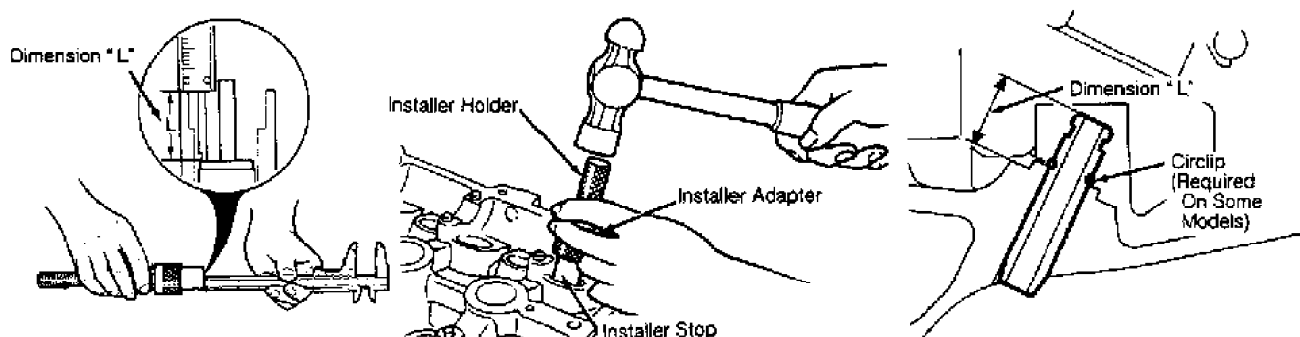

Fig. 11: Adjusting Valve Guide Installer & Installing Guide
3) If required, install new circlip on guide. Using proper components of Valve Guide Installer (49-L012-0A0), adjust installer guide depth (dimension "L") to specification using depth micrometer or caliper. See Fig. 11.
4) Insert guide into pre-adjusted installer, and drive guide into cylinder head from camshaft side until guide circlip and/or installer contact cylinder head. Measure dimension "L" (guide installed height). See Fig. 11 or 12. If installed height is not within specification, adjust or replace valve guide or cylinder head as necessary. See VALVE GUIDE INSTALLED HEIGHTS table.